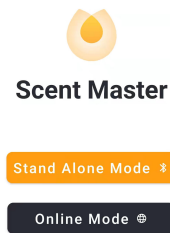

Figure 1
2. Open the app homepage interface, click [Stand Alone Mode] (as shown in Figure 1)